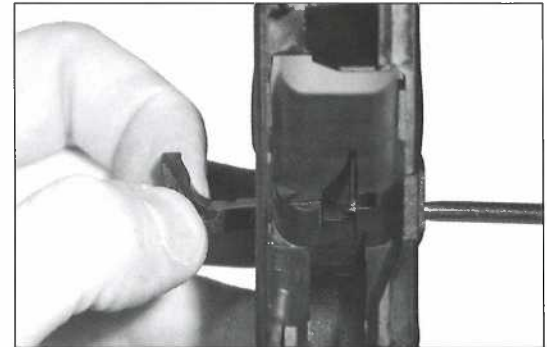

Fig. 189
- When the magazine catch meets the magazine catch spring, carefully push the magazine catch spring up to allow the magazine catch to slip underneath it. (Fig. 189)